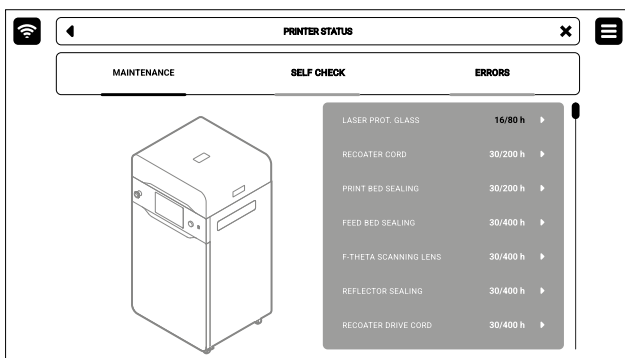

Fig. 12.6 Select **Laser protective glass** position to start the maintenance.
1. On the **PRINTER STATUS** tab, select the **Laser protective glass** position (fig. 12.6).